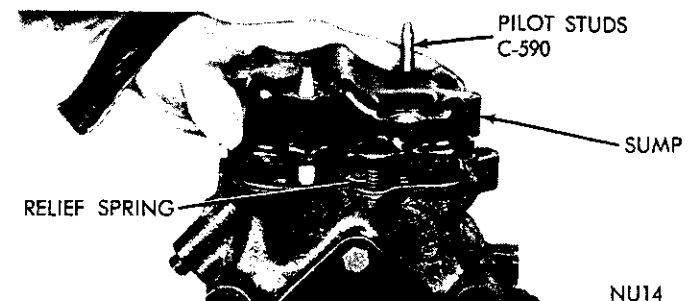

Fig. 11—Installing Compressor Pump
(3) Install valve plates and cylinder heads.
(4) Turn compressor upside down. Install pilot studs, gasket, oil pressure relief ball and spring.
(5) Install the sump over pilot studs (Fig. 11) making sure the oil pressure relief spring depresses uniformly as the sump is lowered on the case.
(6) Tighten sump bolts finger tight to prevent spring misalignment, then tighten 14 to 20 foot-pounds.
(7) Refill with new refrigerant oil after the compressor is installed on vehicle. Do not re-use the oil that was previously drained.